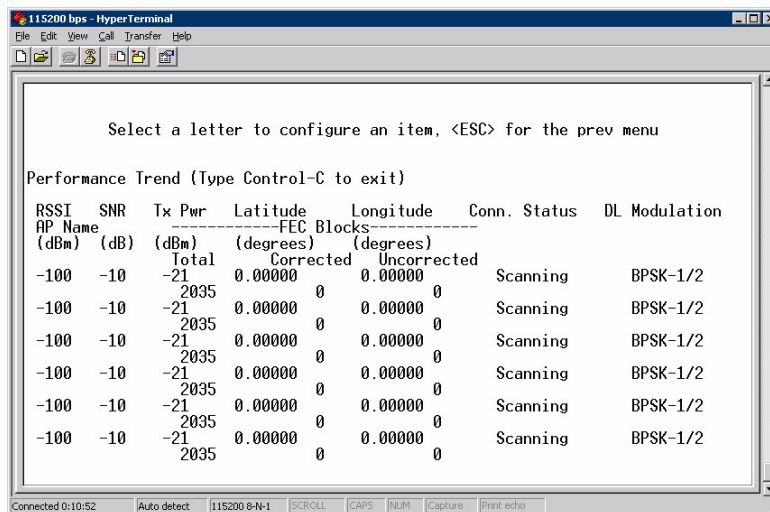

Figure 3-84. Performance Trend Screen
- **Performance Trend (Remote Only)**—Launches a continuously updated list of performance parameters (RSSI, Signal-to-Noise Ratio, Transmit Power, Latitude, Longitude, Connection Status, and FEC Blocks). (See Figure 3-84 on Page 114.)